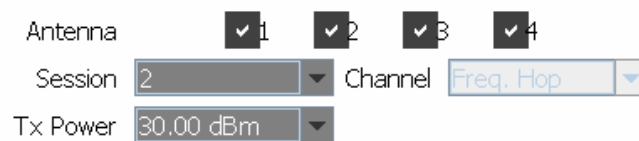

Figure 5-4 Closeup of Variable Selections
The Speedway reader supports four (4) independent, bidirectional, full duplex TX/RX ports. Each antenna port is labeled (ANT1–ANT4) on the Speedway unit and these designations correspond to the Antenna selection buttons that appear on the lower third of the screen. Only those antennas activated by clicking the appropriate button(s) will be operational. (See Figure 5-4.)